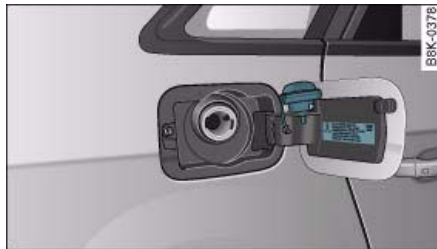

Fig. 248 Fuel tank flap with tank cap attached
- Hook the cap onto the open flap ⇒ fig. 248.